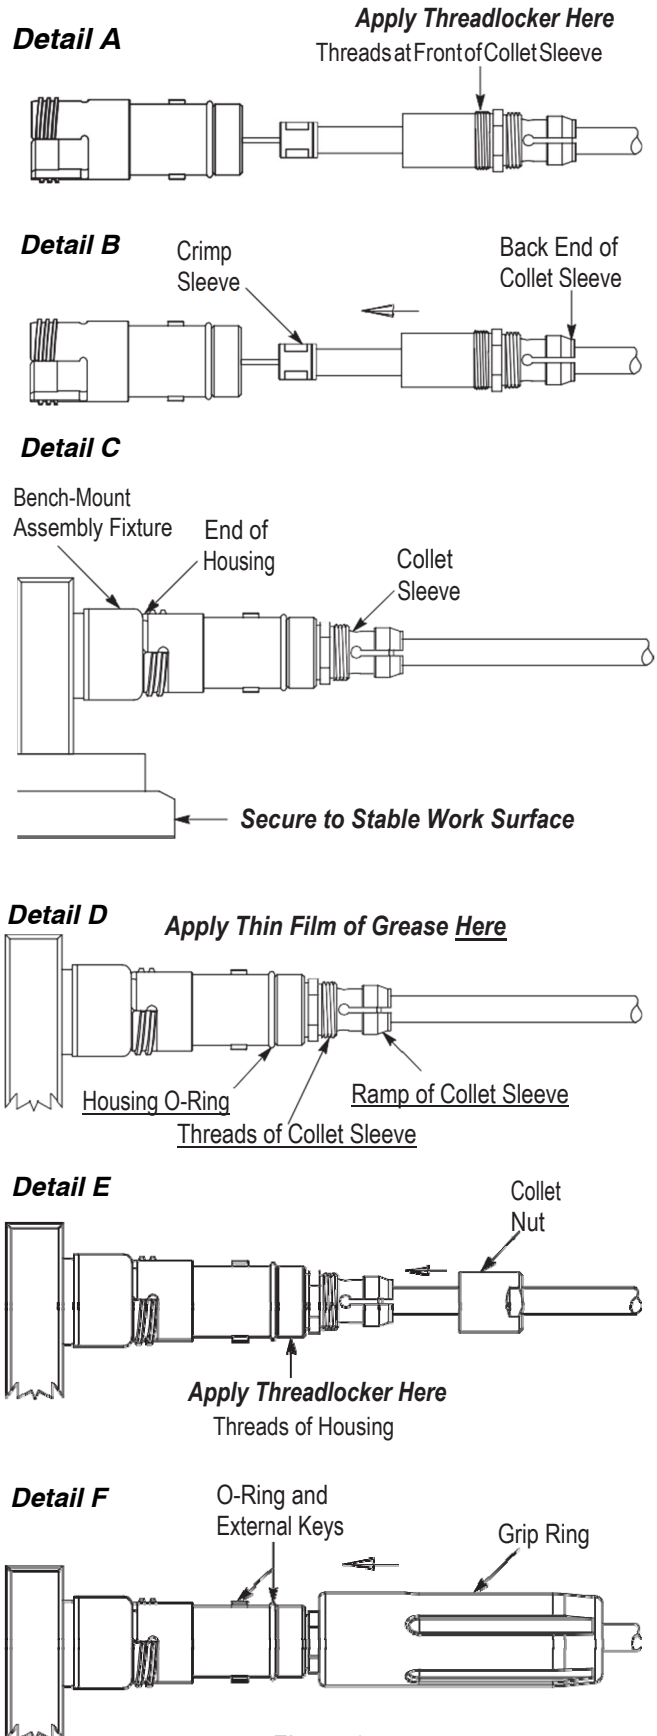

Figure 14
12. Apply 2 to 3 drops of the threadlocker to the threads at the front of the collet sleeve. See Figure 14, Detail A.
13. Slide the collet sleeve over the crimp sleeve and into the housing. Thread the collet sleeve onto the housing, BEING VERY CAREFUL to not pinch the back end of the collet sleeve which would cause the cable to twist. See Figure 14, Detail B.
14. Secure the bench-mount assembly fixture to a stable work surface. Fit the end of the housing onto the captive housing of the bench-mount assembly fixture. See Figure 14, Detail C.
16. Using an applicator swab, apply a *thin film* of the grease to the housing O-ring, threads of the collet sleeve, and the ramp of the collet sleeve. Refer to Figure 14, Detail D.
17. Slide the collet nut onto the collet sleeve. See Figure 14, Detail E. Using the 15-mm open-end wrench, tighten the collet nut to a torque between 3.6 and 4 N·m.
18. Apply several drops of the threadlocker to the threads of the housing. See Figure 14, Detail E.
19. Slide the grip ring over the housing, twisting the grip ring ± 90 so that it slides over the O-ring and the external keys of the housing. See Figure 14, Detail F. Thread, then hand-tighten the grip ring onto the bench-mount assembly fixture.